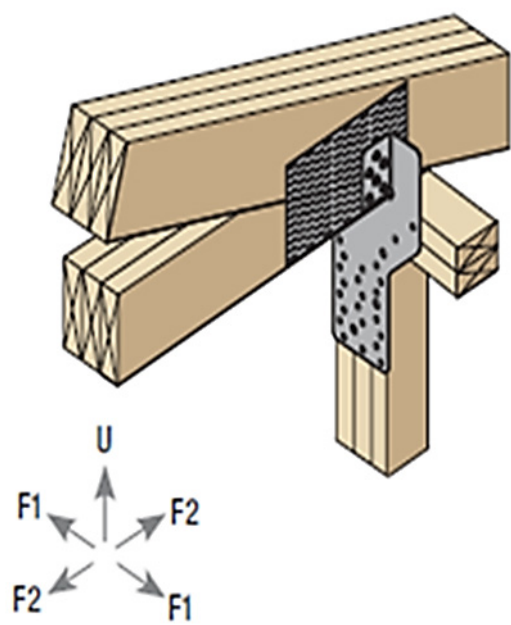

Figure 2. Installed PHHGT3 Connector
- Loading in the F1 direction indicates shear forces parallel to the plane of the wall, connection to truss/rafter in withdrawal (see **Figure 2**).
- Loading in the F2 direction indicates shear forces perpendicular to the plane of the wall, connection to truss/rafter in shear (see **Figure 2**).